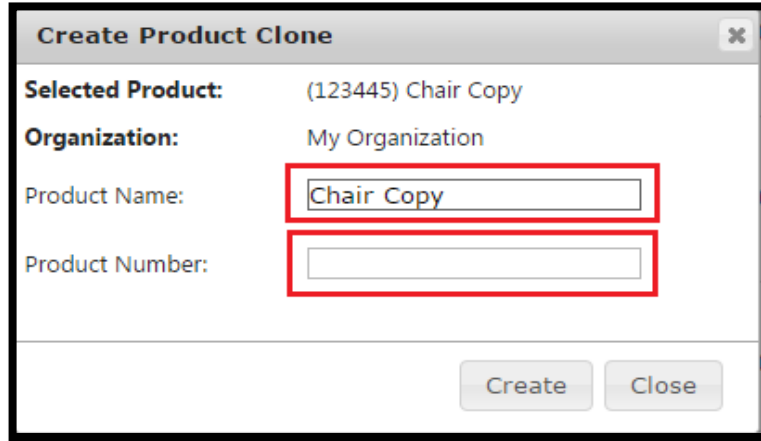

FIGURE 2.1.13
2. After clicking on the icon a popup window will be displayed. Provide the unique product number and Product name through this window. Snapshot of the window is given below in (Figure 2.1.13).